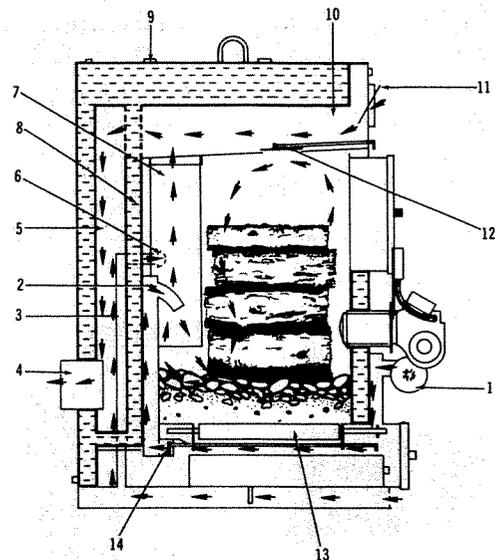

Fig. 87. Riteway boiler.
Fig. 87 shows (1) the ash-pit blower, which provides a forced draft and is usually operated by an aquastat maintaining the desired water temperature. The blower may be operated by a room thermostat, if
damper (14) permits shifting draft when burning coal or wood (Fig. 87 and operating information courtesy Riteway Manufacturing Co.).